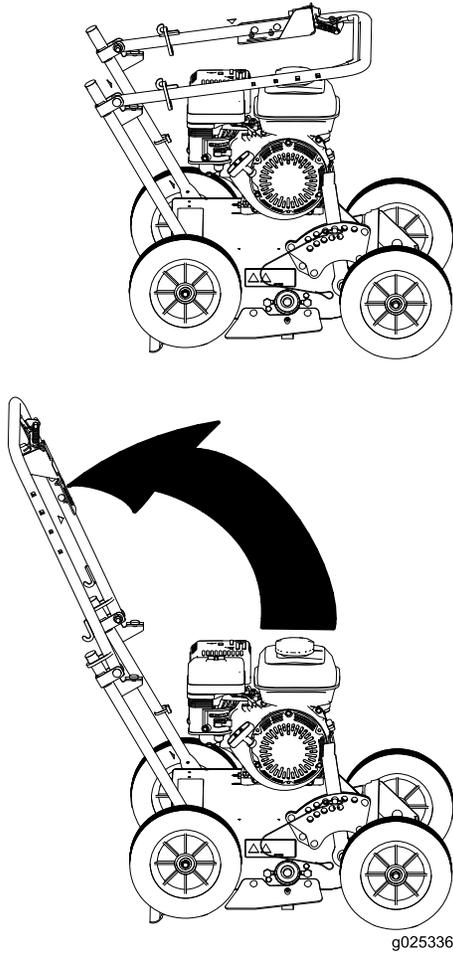

Figure 4
1. Raise the handle to the operating position (Figure 4).
2. Slide the oval locking rings down each side of the upper handle over the lower handle, locking the handle sections together (Figure 4).